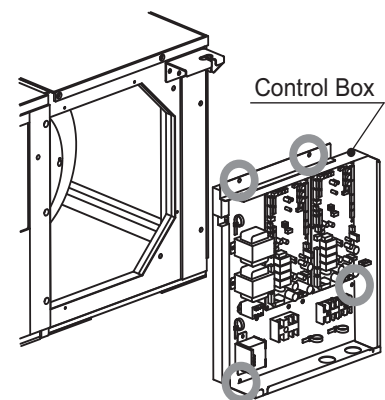

Fig.5
2. Removing the control box (Fig.5)